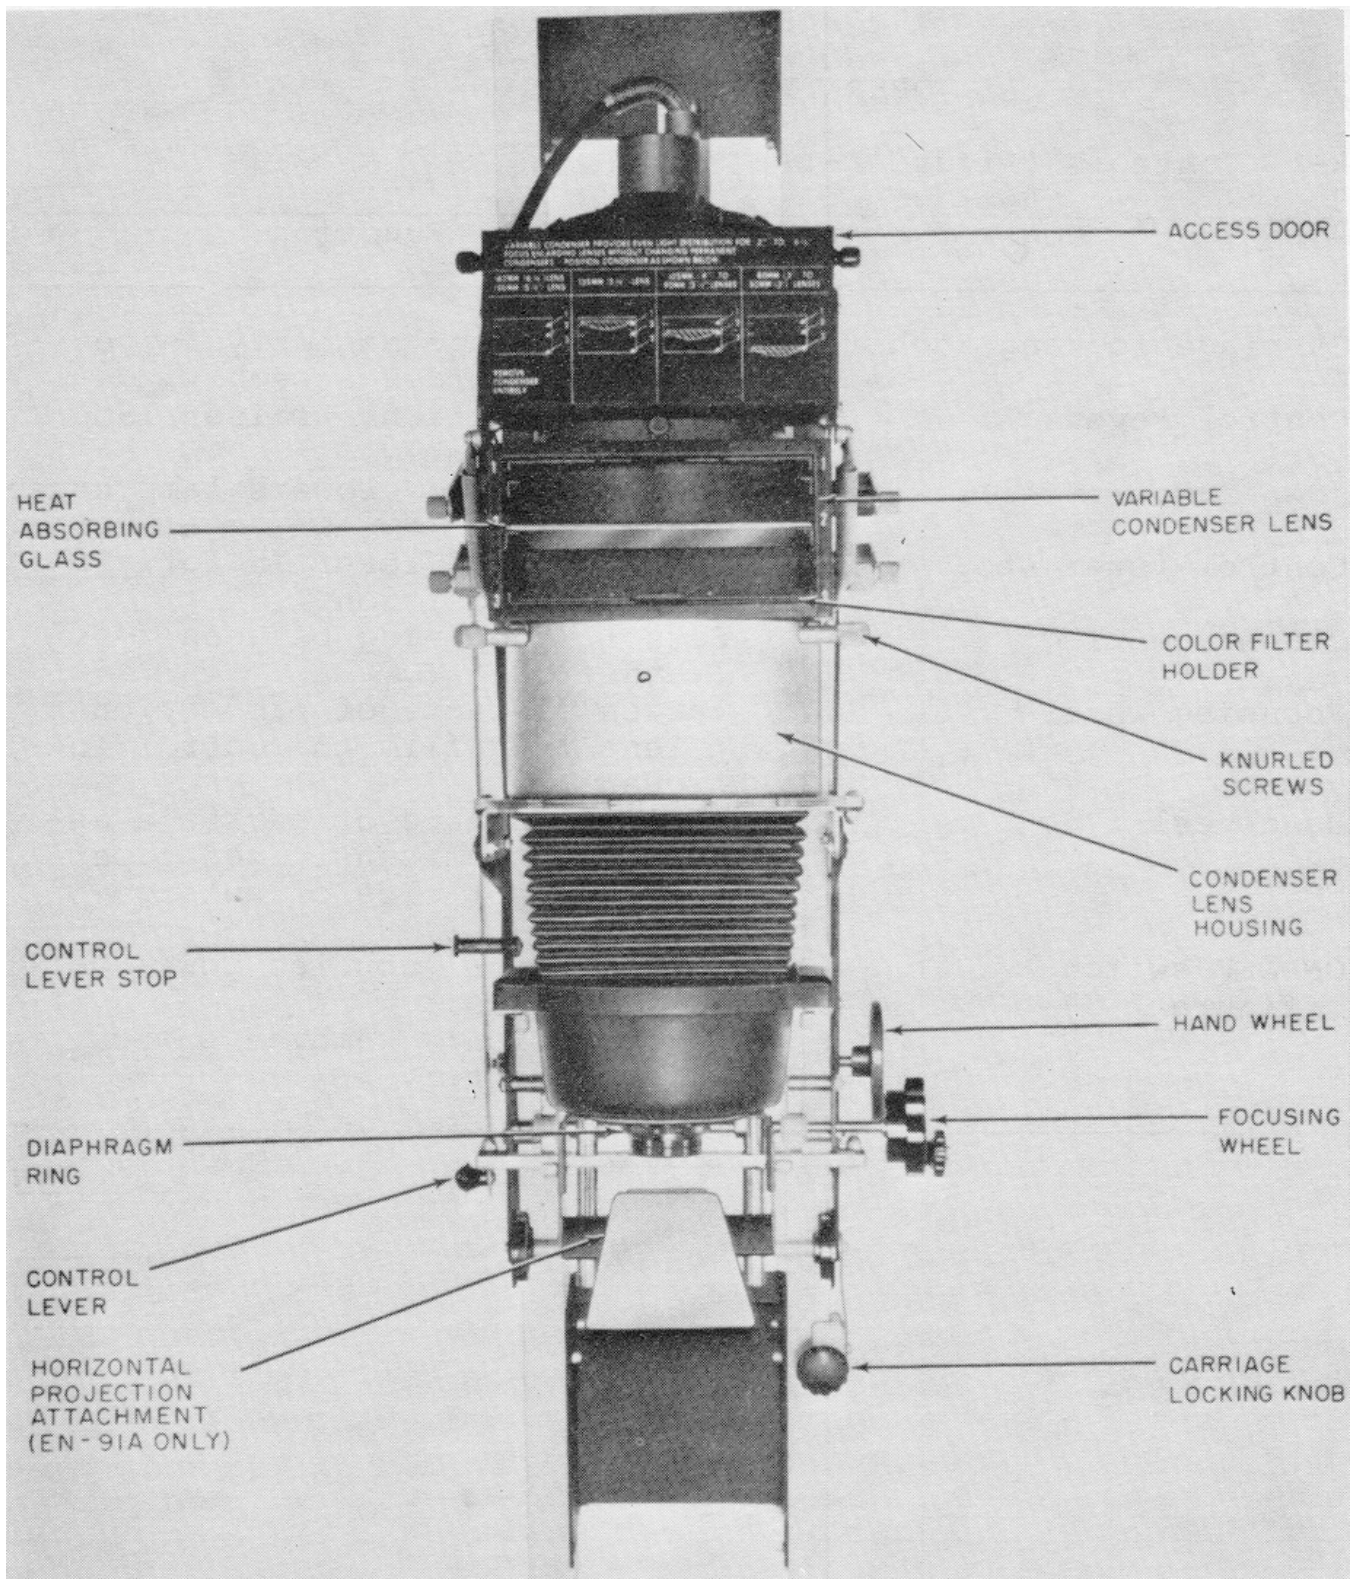

FIGURE 2-14. Operator's controls.
2-17 Controls (figure 2-14)
2-22 Image Size and Focus (figure 2-14)
- h. Loosen the carriage locking knob (figure 2-14).
d. Place the color filter holder in position 3 in the variable condenser lens housing (figure 2-14).